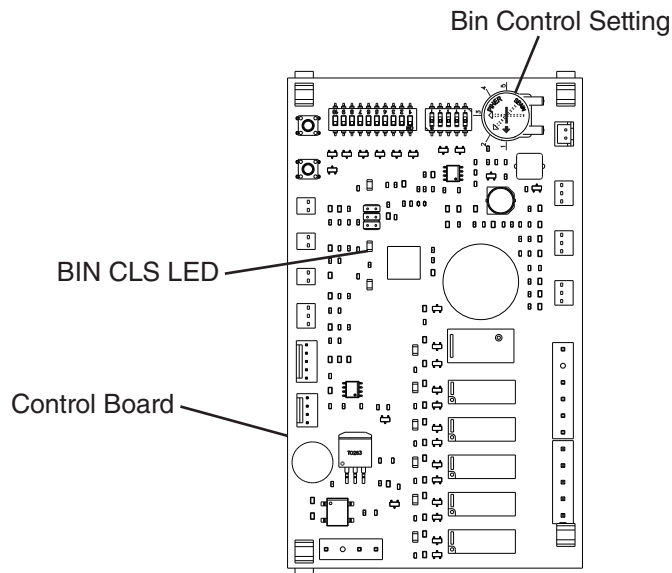

Fig. 9
- 5) Confirm the control board "BIN CLS" LED is off (bin empty). See Fig. 9.